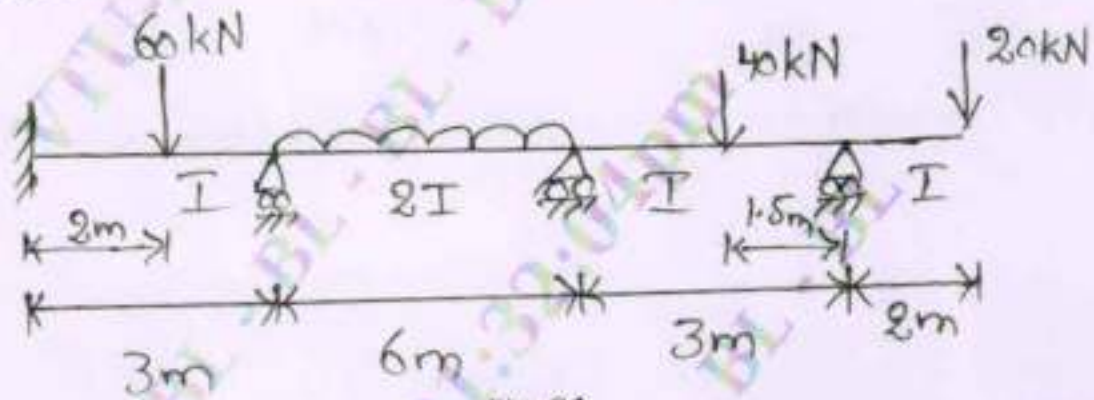

Fig. Q5
- 5 Analyze the continuous beam shown in Fig. Q5 by Kani's method. Draw BMD and SFD.